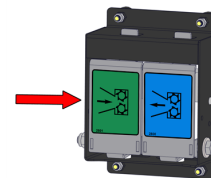

Figure 13 - Forward Feed Control
4. Press the **GREEN** Forward Feed Control (Figure 13).